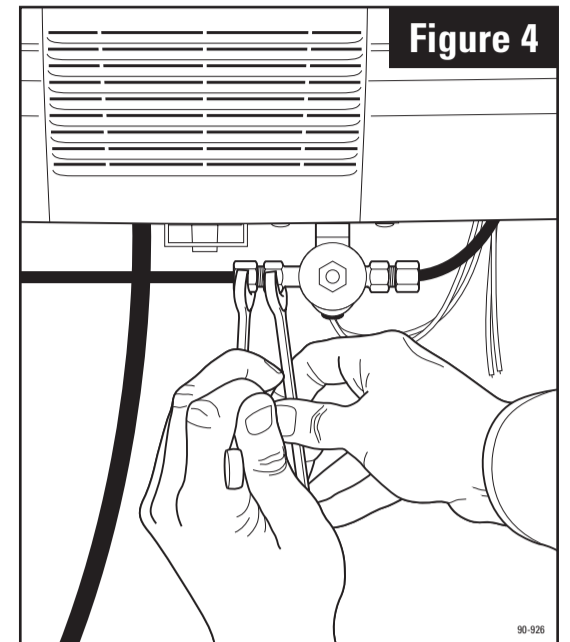

Figure 4
9. Connect tubing from the saddle valve to the inlet side of the solenoid valve using 1/4" O.D. copper tubing (not furnished). **DOUBLE WRENCH TO PREVENT LEAKING!** (See Figure 4)